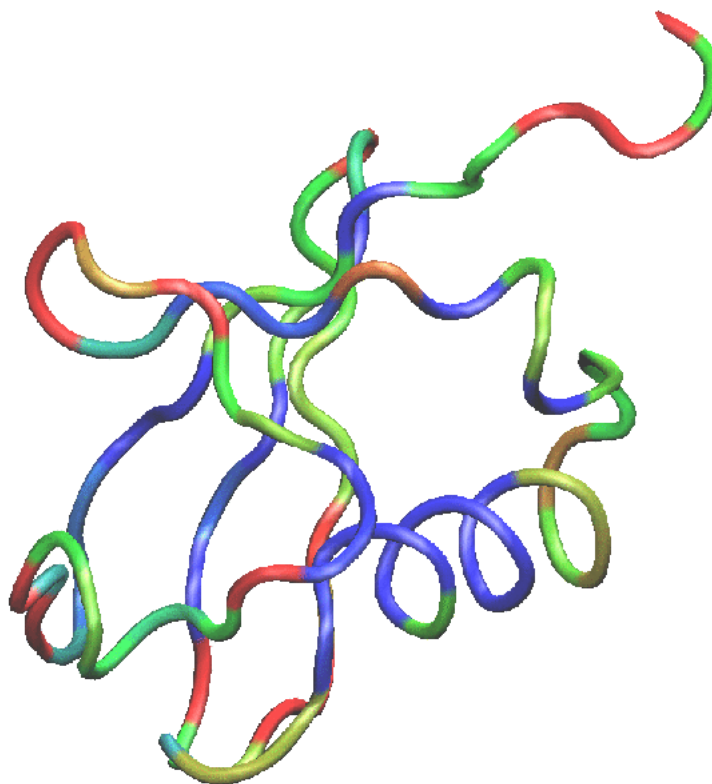

Figure 9: Ubiquitin colored by the average RMSD per residue. Red denotes more mobile residues, blue residues who moved less during equilibration.
- \* **11** Chose the Graphics → Colors... menu item. Choose the Color Scale tab. In the Method pull-down menu, choose BGR. Your figure should now look similar to Fig. 9.